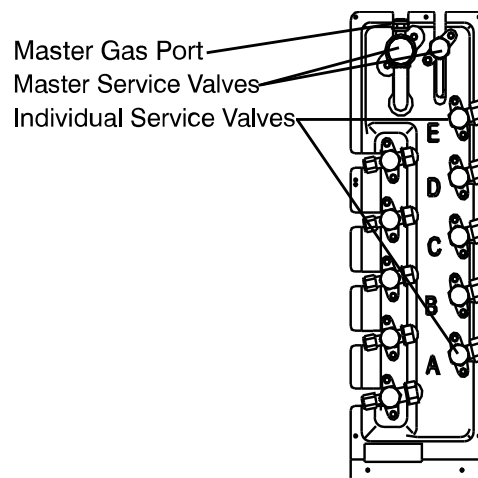
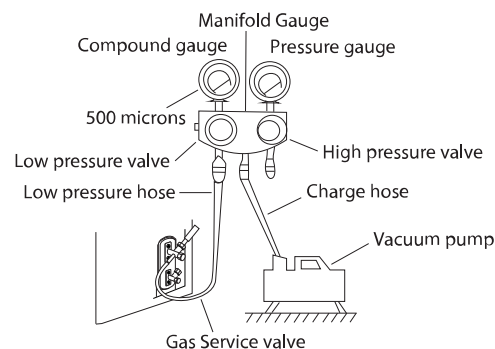

Fig. 24 —Service Valves Sizes 24-48
Fig. 25 —Manifold Gauge
3. For size 18, connect the manifold gauge (low side hose) to the Individual Service Valve (5/16 port, use the adapter to fit a 1/4in hose) to evacuate each of the circuits. For sizes 24-48, connect the manifold gauge (low side hose) to the Master service valve (5/16 port, use the adapter to fit a 1/4in. hose) to evacuate all circuits at the same time (see Fig. 25).
5. Open (fully) the low pressure valve of the manifold gauge (see Fig. 25 for 18K. Fig. 24 for sizes 24K-48K).